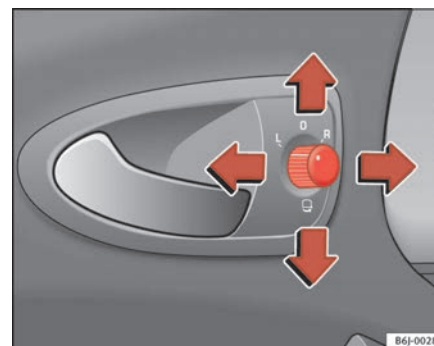

Fig. 65 Controls of exterior mirrors
1. Turn knob ⇒ fig. 65 to position **L** (**left exterior mirror**).
- Turn the control ⇒ page 101, fig. 65 to position  to fold in the exterior mirrors. You should always fold in the exterior mirrors if you are driving through an automatic car wash. This will help prevent damage.